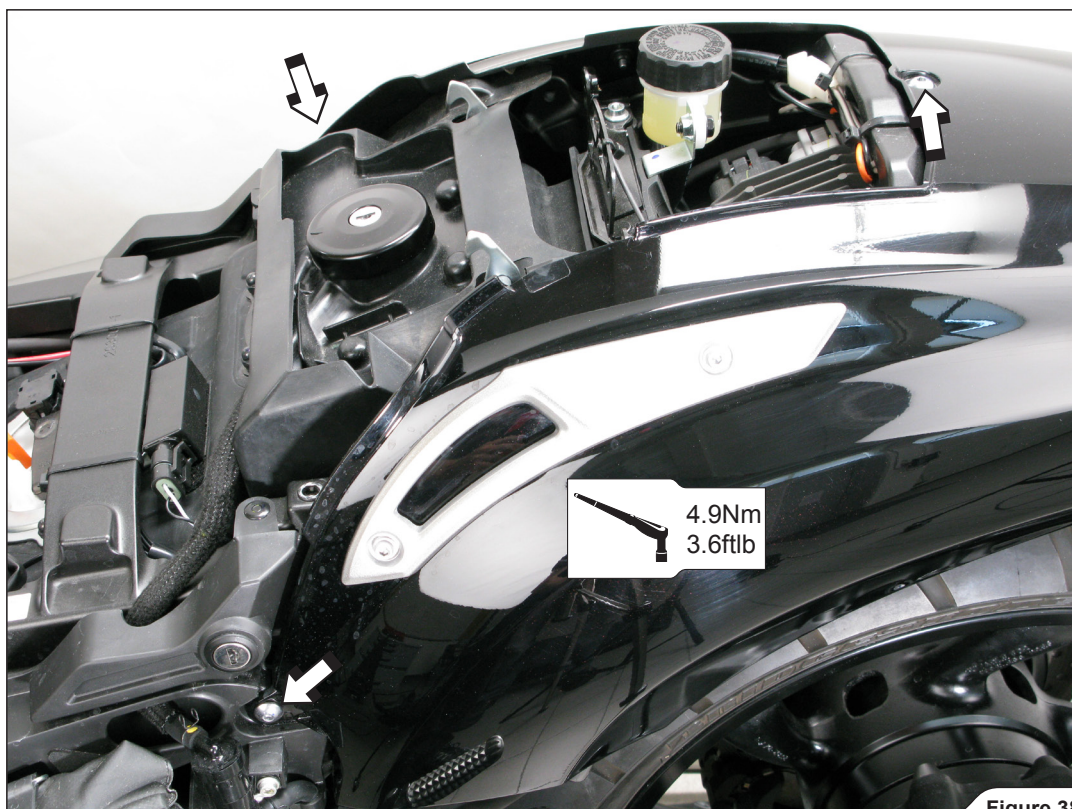

Figure 38
13. For **OPEN SLIP-ON** only: attach the seat cowling, seat panels, seats in the reverse order from the order in which they were removed (Figure 38, 39, 40, 41).